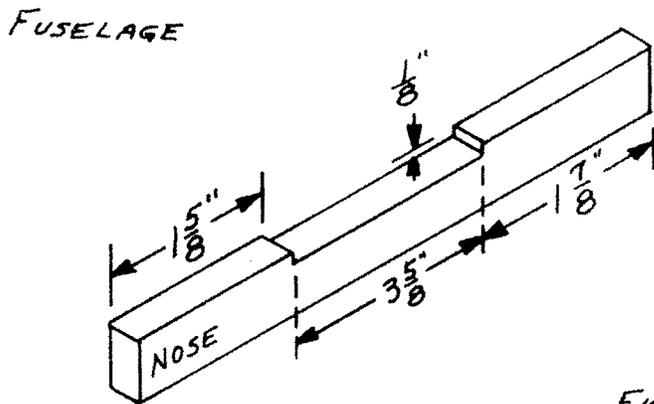

FIG 5
4. Cut the section on the fuselage for the wing $1/8"$ by $3 5/8"$ as indicated on Fig. 5.